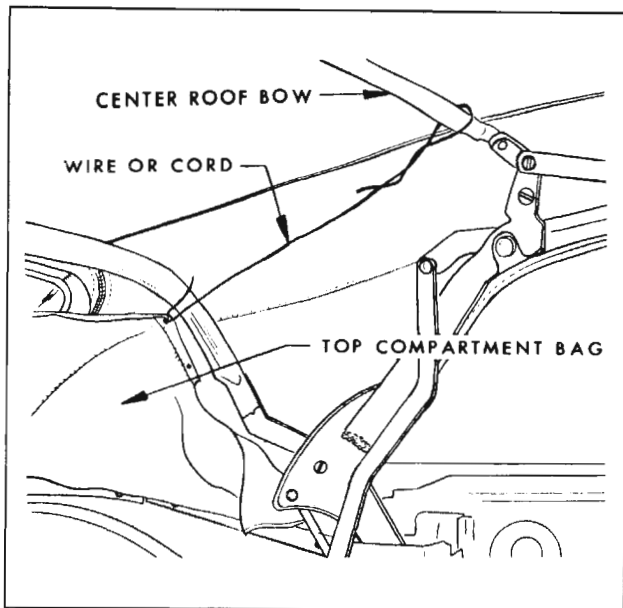

Fig. 16-112 Top Compartment Bag Held in Position
7. Detach folding top compartment bag from rear seat back panel, thus exposing rear quarter and rear trim stick attaching bolts. Forward end of top compartment bag may be tied or wired to center roof bow to provide ready access to attaching bolts. (Fig. 16-112)